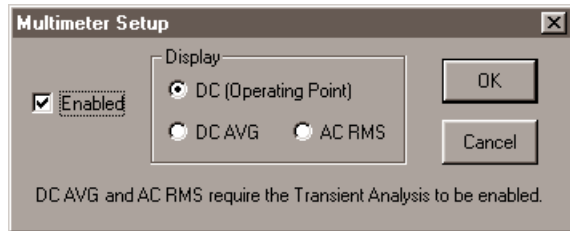

Figure 6.13. Use this dialog box to set up DC Operating Point Analysis.
- 2 Click the **Multimeter** button to display the dialog box pictured in Figure 6.13.